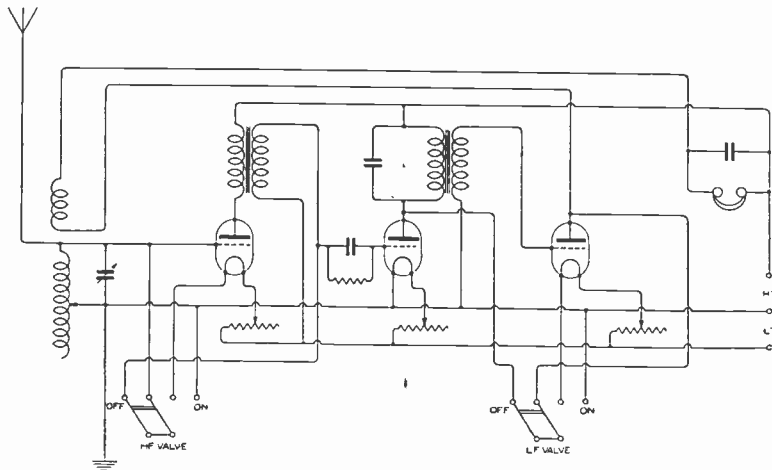

Fig. 5.
(3) The actual magnification will depend on the magnification factor of the valve in use, which may be any value between 4 and 10.
**D.P.F. (Stalybridge)** sends a circuit as shown in Fig. 5, and asks for criticism.
**W.A. (Buxton).**—The diagram given by D.P.F. (Stalybridge), Fig. 5, is just what you require. A telephone transformer is not essential with a set of this type, but it is advisable to use one and also L.R. telephones, so as to avoid the risk of breaking down the insulation of the H.R. telephones.